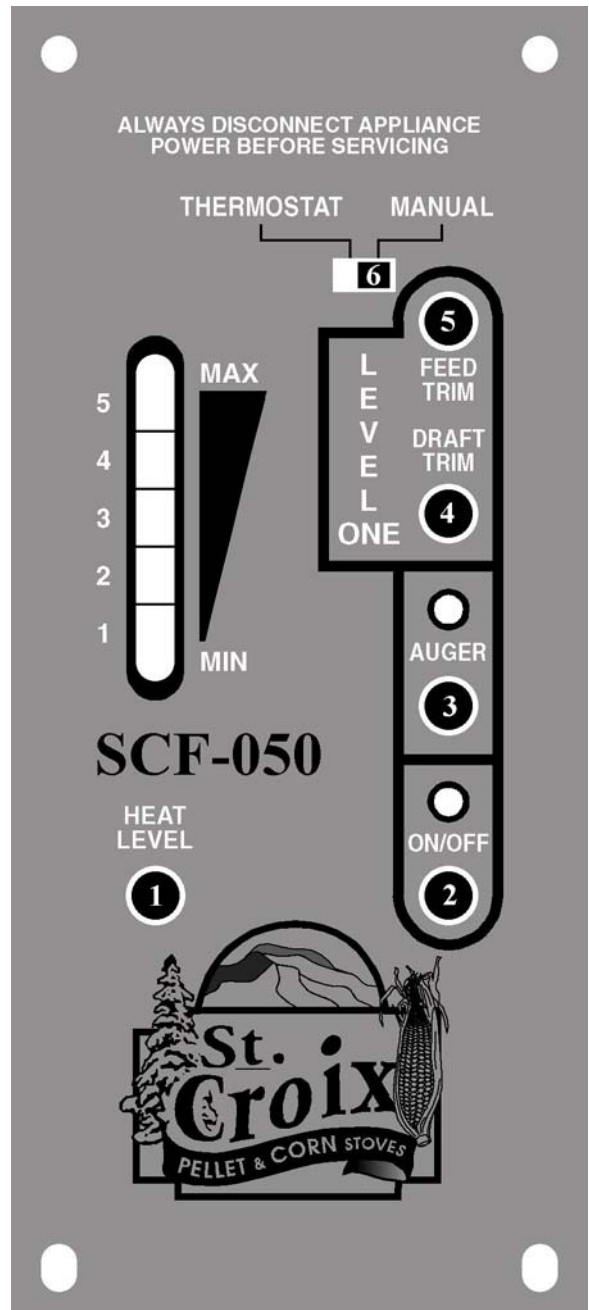

Figure 13
A closer look at the Control Board to the right in figure 13 will explain how the board works. There are five buttons labeled 1 through 5, a slide switch labeled 6 and a LED Light bar with 5 Heat Settings. *The LED Light bar is also used during the Diagnostic process, see page 29 for more details.*
The buttons on the board function as follows: (Refer to Figure13. The touch pad buttons are labeled with the white numbers 1 through 5)
Shutting The Furnace Off *(Refer to Figure 13)*
The #2 LED and the #3 LED lights on the LED Light bar as show in figure13 will flash to give a diagnostic code to help in diagnosing problems that may occur.
1. The **Proof of Fire** switch. This switch will sense the temperature of the Exhaust rising during start up. If the Exhaust temperature does not reach 110 degrees F, or if during use the temperature drops below 110 degrees F, the Furnace will go into **“Internal Alarm”** and the Auger will quit feeding fuel. Once the Furnace completes the safety shutdown, the #3 LED will start blinking. *(See Figure 13 on Page 26)*
2. The **High Limit** switch. This sensor will sense if the unit reaches temperatures that are too high for normal operation. If this happens the Auger will quit feeding and the #2 and #3 LED lights will flash simultaneously. *(See Figure 13 on Page 26)*
3. The **Vacuum** switch. For the Furnace to operate correctly the firebox needs to be sealed. During the first 30 seconds after the Furnace has been turned on the control board will check to see if the switch senses negative pressure (Vacuum) in the firebox of the Furnace. If there is no negative pressure, the Furnace will go into **“Safety shutdown”** and the #2 LED will start blinking. *(See Figure 13 on Page 26)*